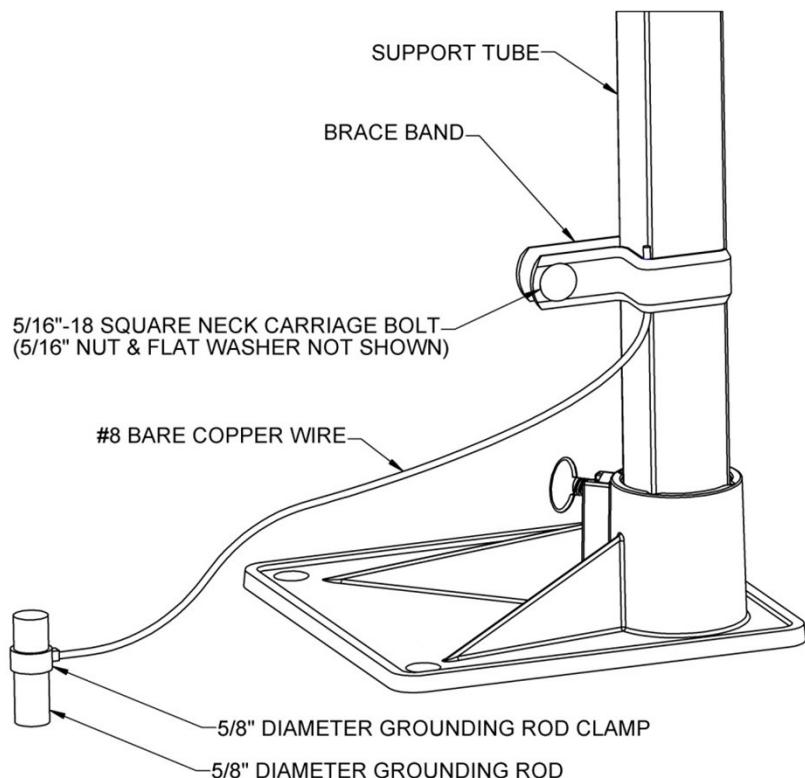

FIG. 7.9
- 7.6.2. Install the brace band around support tube. Place the #8 bare copper wire under the brace band on the corner as shown (FIG. 7.9).